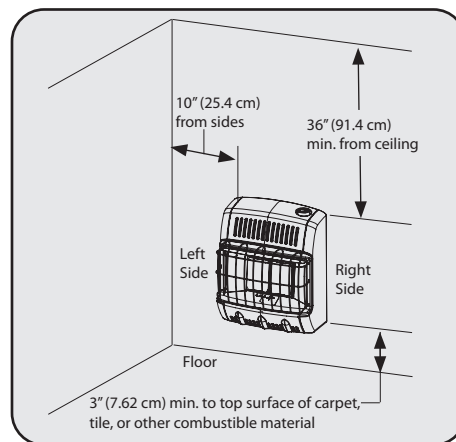

Figure 4
**WARNING:** Heater must be mounted to maintain the minimum clearances shown in Figure 4. If possible, provide greater clearances from the floor, ceiling, and joining walls.